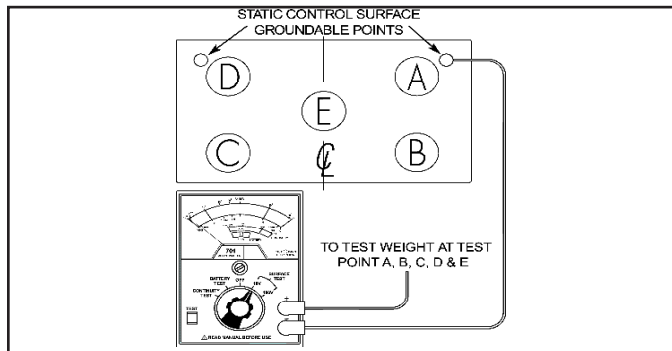

Figure 5. Qualification tests of installed surfaces
2. Set the SCS 701 Analog Surface Resistance Megohmmeter Kit on a table top or other stable surface and place a test weight at the desired test point as shown in Figure 5. Connect the test leads to the meter using the right angle banana plugs at the meter. Then connect one of the test leads to the test weight and the other to the ESD GROUND using one of the supplied clips.
[Measurement of resistance of the top surface to the groundable point of the static control surface (RTS-GP)]. GROUNDABLE POINT is the point at which the grounding conductor is connected to the static control surface; the GROUNDABLE POINT is most commonly a snap (mats), a bolt (laminates), or a strip of conductive foil tape (flooring). This QUALIFICATION measurement is similar to those described in the test description section and is used to verify the correct installation of the GROUNDABLE POINT by the manufacturer or by the user. While the test procedure is the same, the test setup is slightly different; see Figure 5.